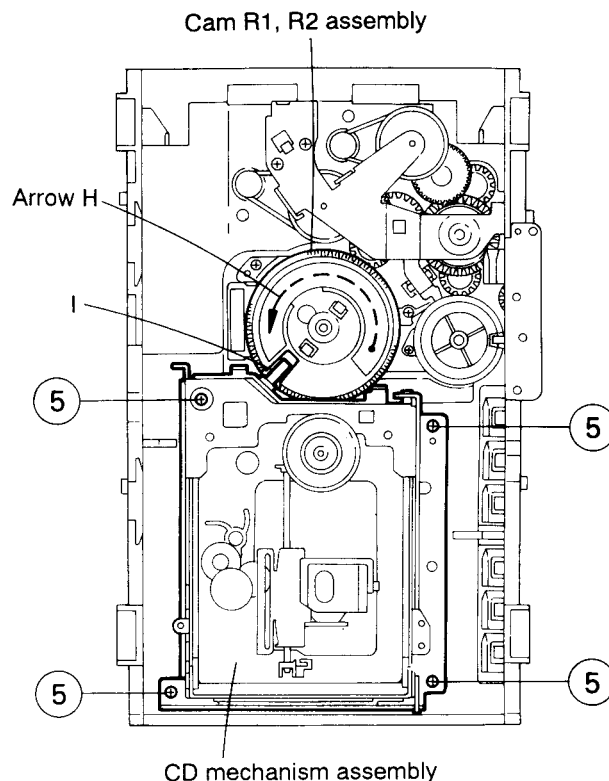

Fig. 5-32
■ Removing the CD mechanism assembly (See Fig. 5-32)
1. While turning the cams R1 and R2 assembly in the arrow direction (I), align the shaft (J) of the CD mechanism assembly to the position shown in Fig. 5-32.
2. Remove the four screws (5) retaining the CD mechanism assembly (See Fig. 5-32).